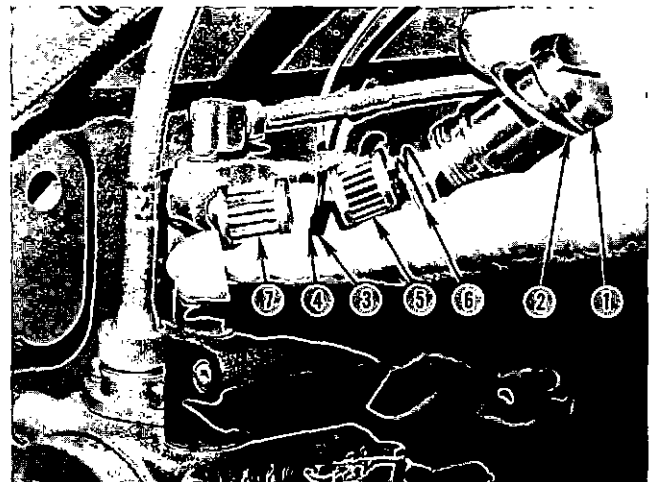

Fig. 5-31, N11940. Fuel pump filter assembly — PT (type G) fuel pump with MVS governor
1. Remove filter cap (1, Fig. 5-31) and dynaseal (2) from governor housing.
2. Remove "O" ring retainer (3), "O" ring (4), screen (5) and spring (6) from filter cap.
3. Using a screwdriver or wire hook, remove bottom screen and magnet assembly (7) from fuel pump housing. Remove screen retainer.